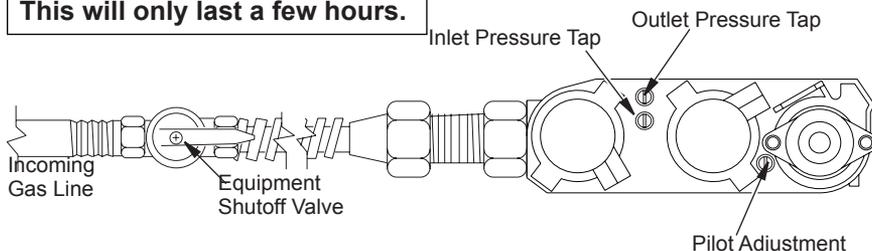

Figure 31 - Turning Equipment Shutoff Valve to the OFF Position
5. Turn equipment shutoff valve clockwise ↻ to the OFF position (see Figure 31). Do not force.
6. Wait five (5) minutes to clear out any gas. Then smell for gas, including near the floor. If you smell gas, STOP! Follow "B" in the safety information. If you don't smell gas, go to the next step.